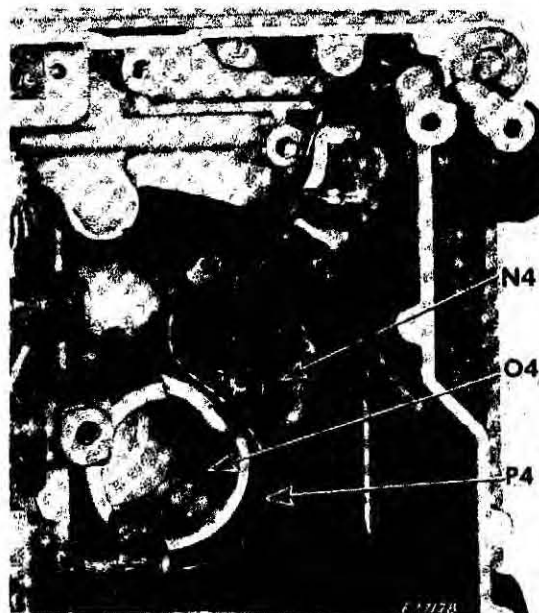

Fig. 301. Location of Wires around Motor
1. Make sure that wire **P4**, Fig. 301 is correctly located around and under cylindrical tube **O4**; then up behind three-pin terminal **N4**, as shown in Fig. 301.
NOTE: Make certain that light leads are above the three-pin terminal and around the cylindrical tube, as shown in **Fig. 301**, **page 145** and instructed in Step #1 under "REPLACEMENT" on **page 145**.